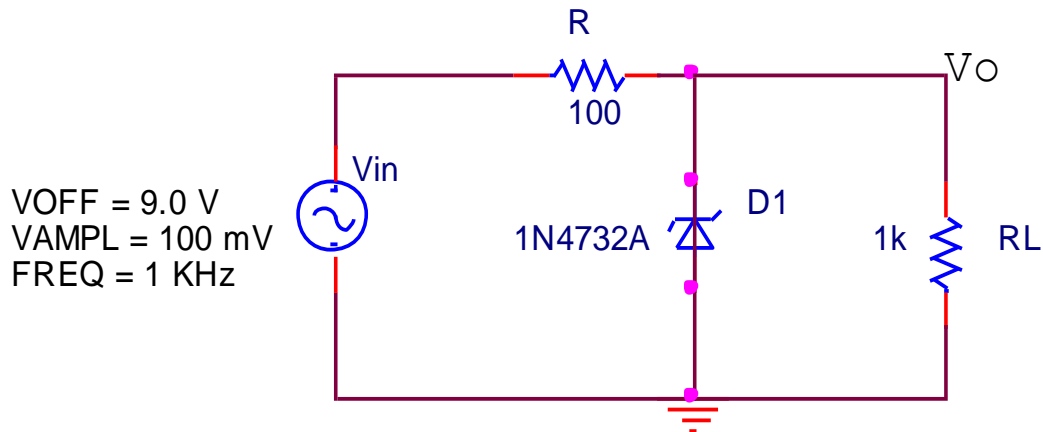

Fig. 4-Voltage Regulation
Here,  $\Delta V_o$  and  $\Delta V_{in}$  are fluctuation in output and input voltage respectively. See figure 4. One can measure these two quantities and then determine line regulation. A theoretical analysis gives the following expression for line regulation.
2. Why is it necessary to put resistor R in Fig. 4?
For voltage supply, use the function generator. You need to provide VOFF so that the diode is in the operating region as shown in Fig.2. You can use the option Voffset in the function generator (FG) to get this value. In figure 4, VOFF is shown to be 9V which may be good for your purpose. The sinusoidal part in  $V_{in}$  (100 mV) is supposed to be the noise that needs to be eliminated. It is same as  $\Delta V_{in}$  in Eqn. (2). Using the suitable tools measure  $V_Z$ ,  $\Delta V_{in}$ , and  $\Delta V_o$ . Fill out the table below.
2. Assume that the Zener diode in Fig. 4 has  $r_z = 20\Omega$ . Find the numerical value of load regulation. For simplicity, ignore  $R_L$  since it is much larger than  $r_z$ .